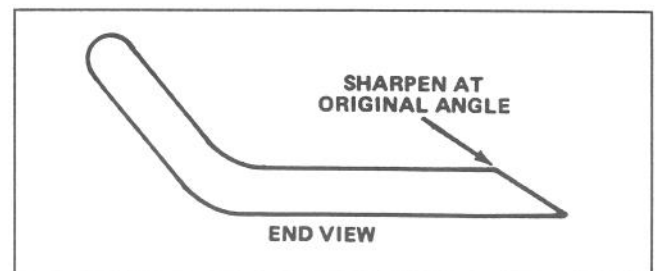

Figure 59
3. Examine cutting edges of all blades. Sharpen cutting edges that are dull or nicked. To assure sharpness, sharpen only the top side of the cutting edge while maintaining the original cutting angle (Fig. 59). If the same amount of metal is removed from both cutting edges, the blade will remain balanced.